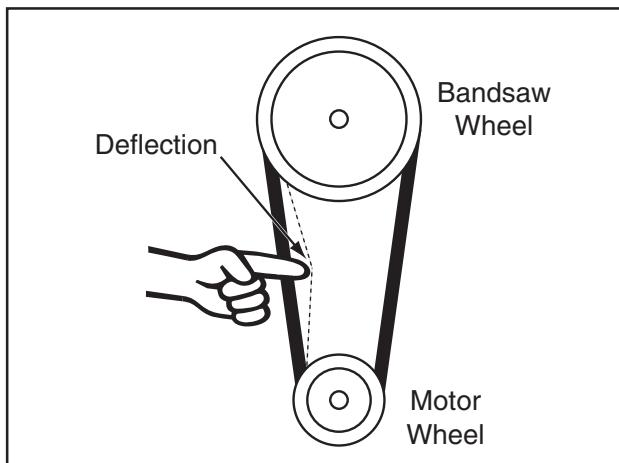

Figure 68. V-belt deflection.
- Check the V-belt tension. When tensioned correctly, the V-belt can be deflected approximately $\frac{3}{4}$ " (see **Figure 68**).